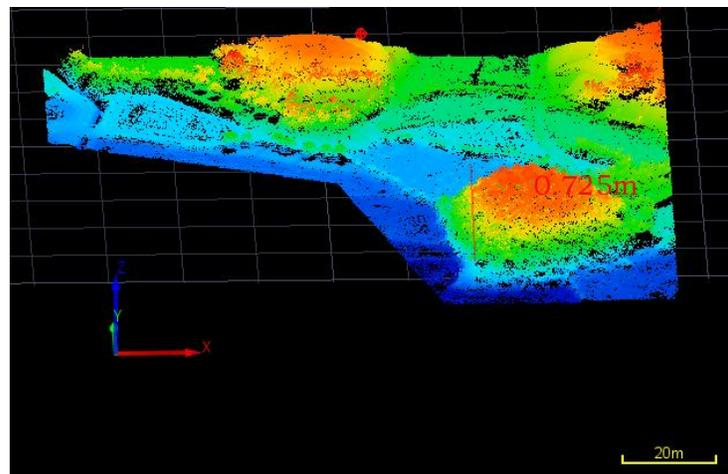

Figure 3-101 Measure Height
- (1) Click the menu <Tools> → <Measure Height>.
- (2) Click the left mouse button to select the two points that need to calculate the height, and draw a height line (Figure 3-101), the height value is displayed in real time on the view.
- (3) Cancel: click <Measure Height> again.